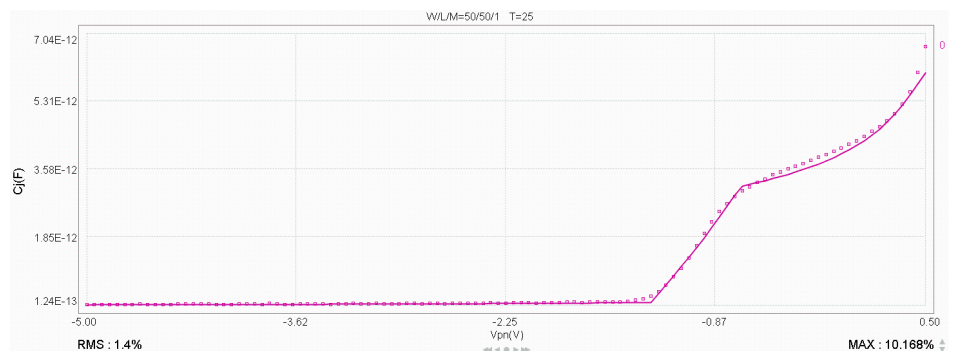

Figure 1. Simulated and measured CV character of the PN junction.
Researchers from the Institute of Microelectronics of Chinese Academy of Sciences (IMECAS) have proposed a new simulation model for the PN junction based on SOI. Keysight Technologies' Model Builder Program (MBP) software was used to extract the model parameters. The capacitance-voltage (CV) fitting results of the N+P junction are shown in Figure 1.